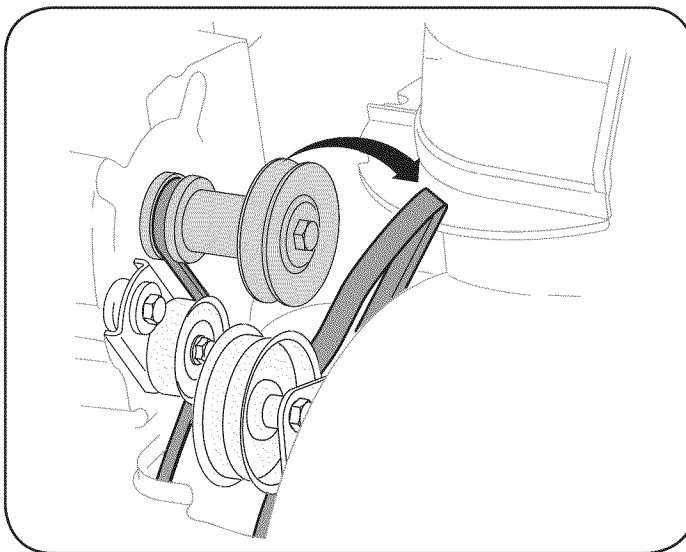

Figure 30
4. Roll the auger belt off the engine pulley. See Figure 30.